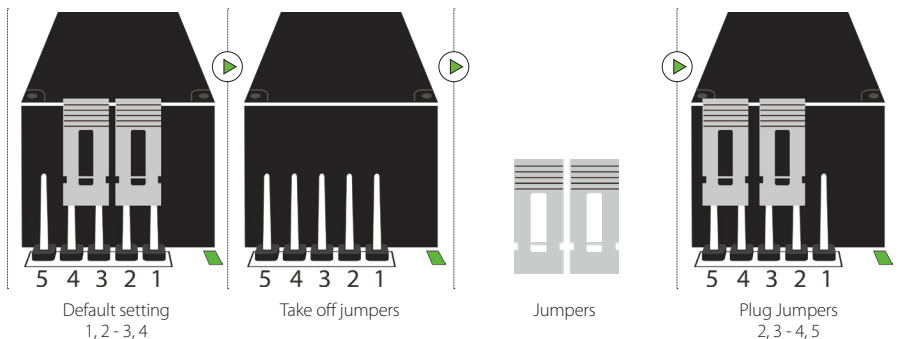

Figure 21
1. Take apart the cover of InBio460Pro. Push the tab inward (see figure 21)